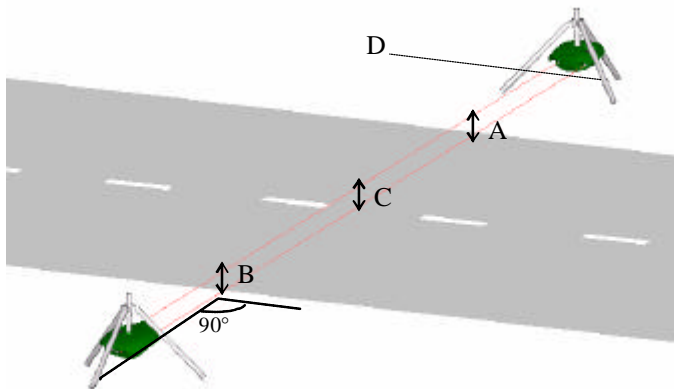

Figure 11 – Example TIRTL deployment.
- The beams between the transmitter and receiver should be 90° to the roadside (Figure 11).
Together with optical positioning TIRTL alignment is optimized by ensuring the line “D” of Figure 11 is at the same angle of inclination to vertical as the road surface. The inclination of both the road surface and the TIRTL receiver and transmitter is determined by the use of the Angle Finder (see Figure 12).